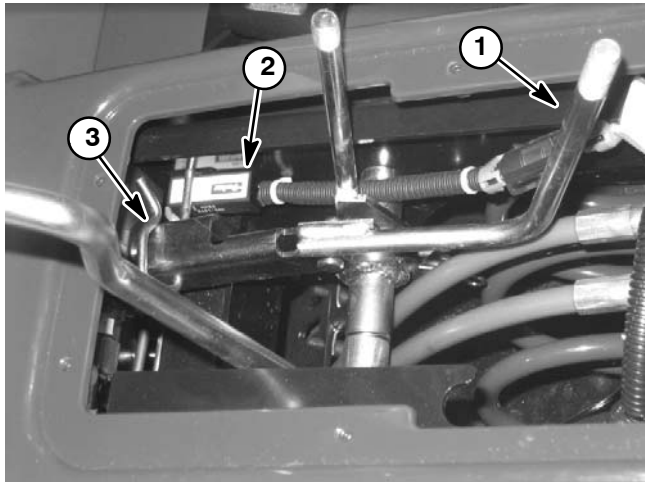

Figure 14
The lift lever interlock switch is a normally open proximity switch that is attached to the control lever support (Fig. 14). The interlock switch is in its normal open position whenever the hydraulic lift lever is moved away from the neutral position. When the lift lever is in the neutral position, the lift lever linkage is positioned close to the interlock switch causing the switch to close. The lift lever interlock switch is used in the starting system to make sure that the hydraulic lift circuit is disengaged during engine starting.
3. Locate the lift lever interlock switch (Fig. 14).
5. With the use of a multimeter (ohms setting), test for continuity across the two (2) switch terminals. There **should be** continuity (zero ohms) when the lift lever is in the neutral position and there **should not be** continuity (infinite ohms) when the lift lever is out of the neutral position.